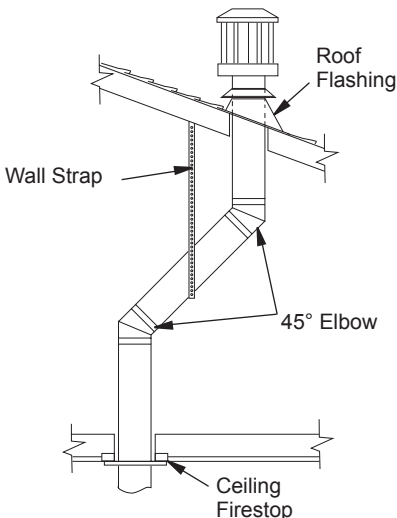

Figure 19 - Offset with Wall Strap and 45° Elbows
1. Determine route your vertical venting will take. If ceiling joists, roof rafters or other framing will obstruct venting system, consider an offset (see Figure 19) to avoid cutting load bearing members. *Note: Pay special attention to these installation instructions for required clearances (air space) to combustibles when passing through ceilings, walls, roofs, enclosures, attic rafters, etc. Do not pack air spaces with insulation. Also note maximum vertical rise of venting system and any maximum horizontal offset limitations.*
- Note: If an offset is needed to avoid obstructions, you must support vent pipe every 3 feet. Use wall straps for this purpose (see Figure 19). Whenever possible, use 45° elbows instead of 90° elbows. The 45° elbow offers less restriction to the flow of flue gases and intake air.*
5. Place flashing over pipe section(s) extending through roof. Secure base of flashing to roof and framing with roofing nails. Be sure roofing material overlaps top edge of flashing as shown in Figure 19. There must be a 1" clearance from vent pipe to combustible materials.